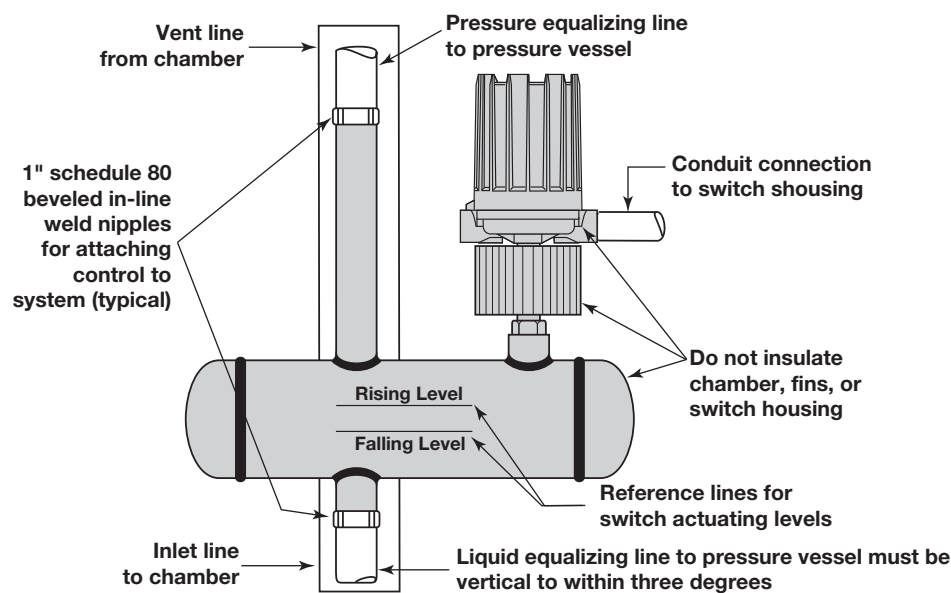

Figure 3
Figure 3 shows a typical piping installation of a Model B40 in a pipeline to a pressure vessel. Reference lines, on float chamber, should be aligned to correspond with liquid level in the vessel at which switch control is desired (refer to dimensional drawing, if furnished). Use pipe of sufficient strength to support the unit. If necessary, provide a stand or hanger to help support its weight. All piping should be straight and free of low spots or pockets so that the lower liquid line will drain towards the vessel and the upper vapor line will drain towards the control. Pipeline should be insulated, as shown, to minimize loss of liquid temperature and further control of the heat in the area of the switch housing. **DO NOT** insulate switch housing or float chamber.
6. If switch magnet assembly swings freely and mechanism still fails to actuate, check installation of control to be certain it is within the specified three degrees of vertical. (Use spirit level on side of enclosing tube in two places, 90° apart.) Refer to Figure 3 on page 5.